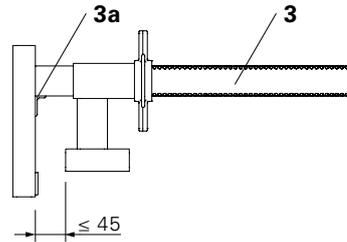

Fig. A2.05b
- Slab or parapet thickness: ≤ 45 cm. (Fig. A2.05b)